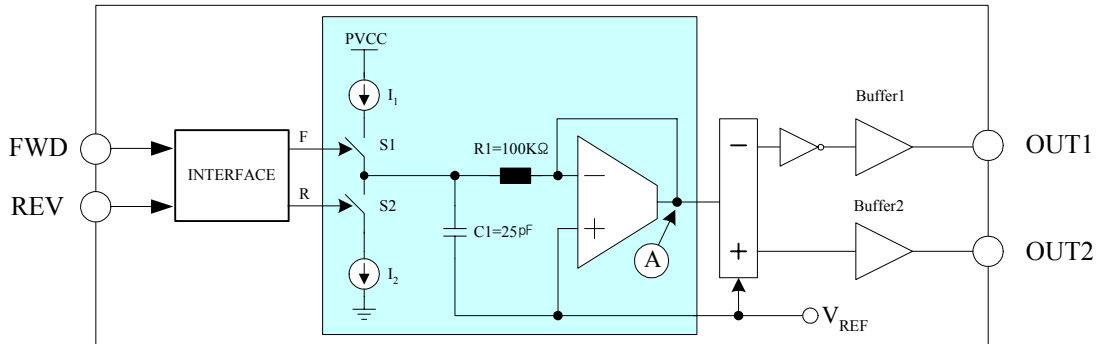

Figure 2. Schematic of BTL Driver (CH1, CH2 and CH3)
- It converts "FWD/REV" digital signals to analog signal as shown Figure. 2.